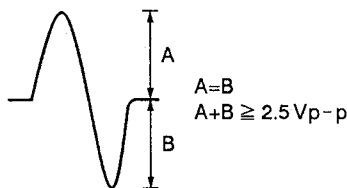

Figure 8
3. While watching the oscilloscope screen, press the PGM (PROGRAM) key and observe the waveform in Figure 8 for a moment. Verify that the amplitude is at least 2.5 V_{p-p} and that the positive and negative amplitude are about equal. Since the waveform is only output for a moment when the PGM (PROGRAM) key is pressed, press this key over and over until you have checked the waveform.